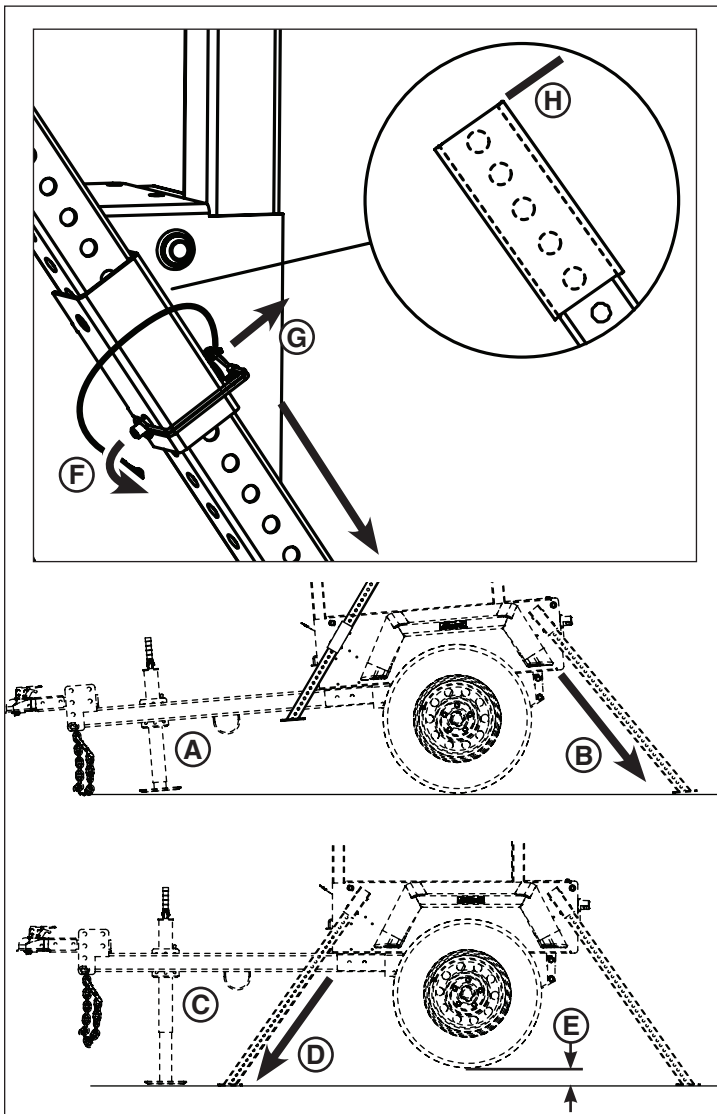

Figure 10
5. Lower the front of the trailer using the tongue jack (A, Figure 10).
6. Set the rear outriggers (B, Figure 10) by unlocking (F, inset) and removing (G) the locking pin securing each outrigger to the trailer frame. Slide the outrigger down until the top of the outrigger is flush with the top of the outrigger bracket on the frame (H). Secure with the locking pin.
7. Raise the front of the trailer using the tongue jack (C, Figure 10).
8. Set the front outriggers (D, Figure 10). (Follow the same procedure as in Step 6.)
9. Fully raise the tongue jack. The trailer should now rest solely on the outriggers, with the tires raised off the ground approximately 3" (7,6 cm) (E, Figure 10).